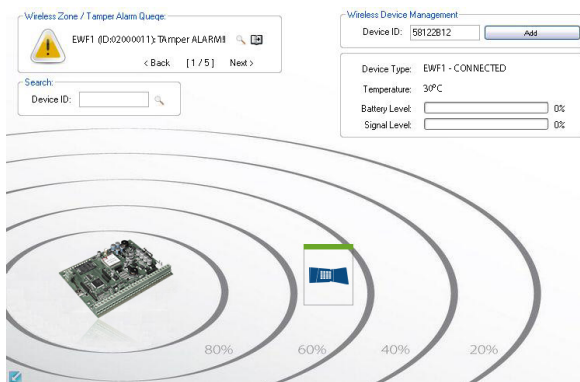

Fig. No. 6
5. Bind the device to the alarm system using *ELDES Configuration Tool* software. Open **Wireless Device Management** section and enter a 8-digit wireless device ID located on the EKB3W enclosure and press **Add** button (see Fig. No. 6). The device can also be bind by sending a corresponding command via SMS message. For more details, please, refer to the software's **HELP** section and ELDES alarm system installation manual.